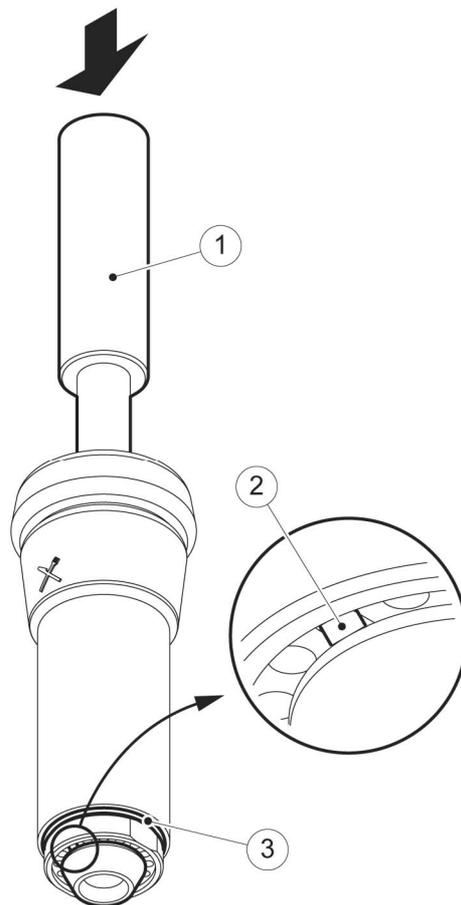

Figure 3: Install the teat cup liner in the teat cup sleeve
7. Use the teat cup liner installation tool (fig. 3/1) to push the lower part of the liner in the teat cup sleeve.
8. Make sure the bottom of the teat liner (2) engages correctly in the bottom of the teat cup sleeve.
9. Examine the O-ring (3) of the teat cup sleeve for damage.